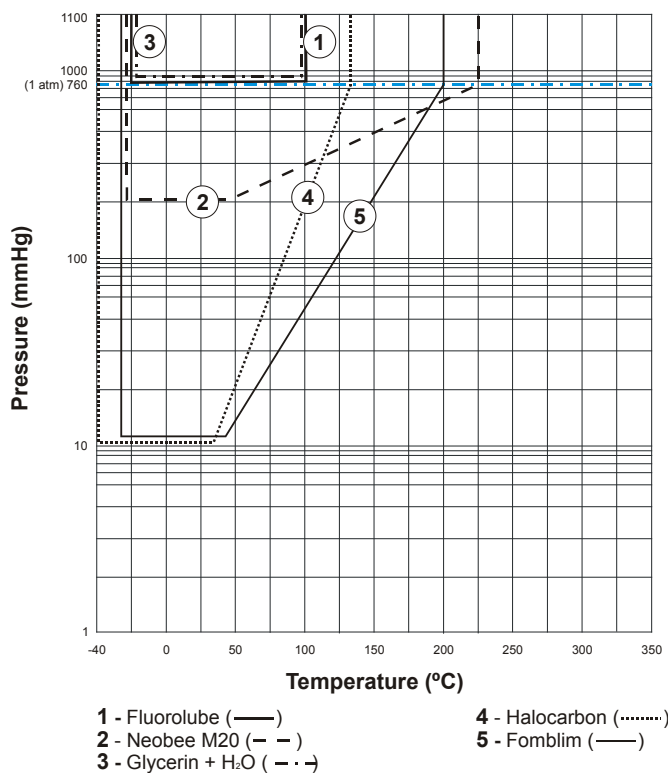

Figure 2.3 – Pressure x Temperature Curve (1)
P_H : High Pressure H d_P : Process Fluid Density P_{atm} : Atmospheric Pressure P_L : Low Pressure L d_E : Filling Fluid Density P_V : Steam Pressure of Filling Fluid (Figures 2.3 and 2.4) P_u : Internal Tank Pressure Note 1: Requires Special construction for vacuum.
Table 2.4 shows the filling fluids used by Smar with some physical properties and types of application. On Figures 2.3 and 2.4 the Steam Pressure curves (mmHg) are shown against the Temperature (°C) of these fluids.
Legend: (1) Propylene Glycol Diester of Octanoato / Decanoato; (2) N.A. – Nonapplicable; (3) Consult graphs in the Figures 2.3 and 2.4 below when the vacuum pressure is known.